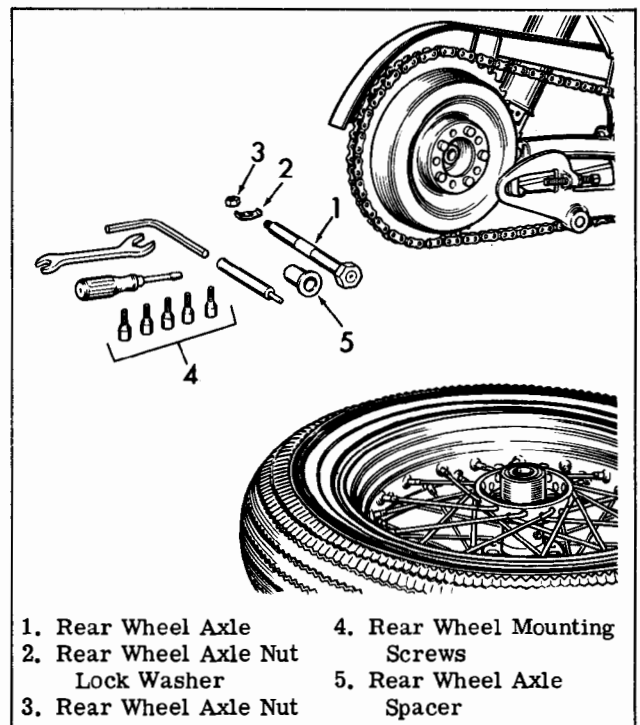

Figure 2-5. Removing Rear Wheel
Elevate motorcycle rear end with service stand, or suitable blocking under frame so rear wheel is off the ground. Remove two rear screws from fender support, and raise end of fender as shown in Figure 2-5. Remove the five socket screws (4) that secure wheel to brake drum. The socket screw wrench can be inserted only at the rear of axle; turn wheel to bring each screw to this position.